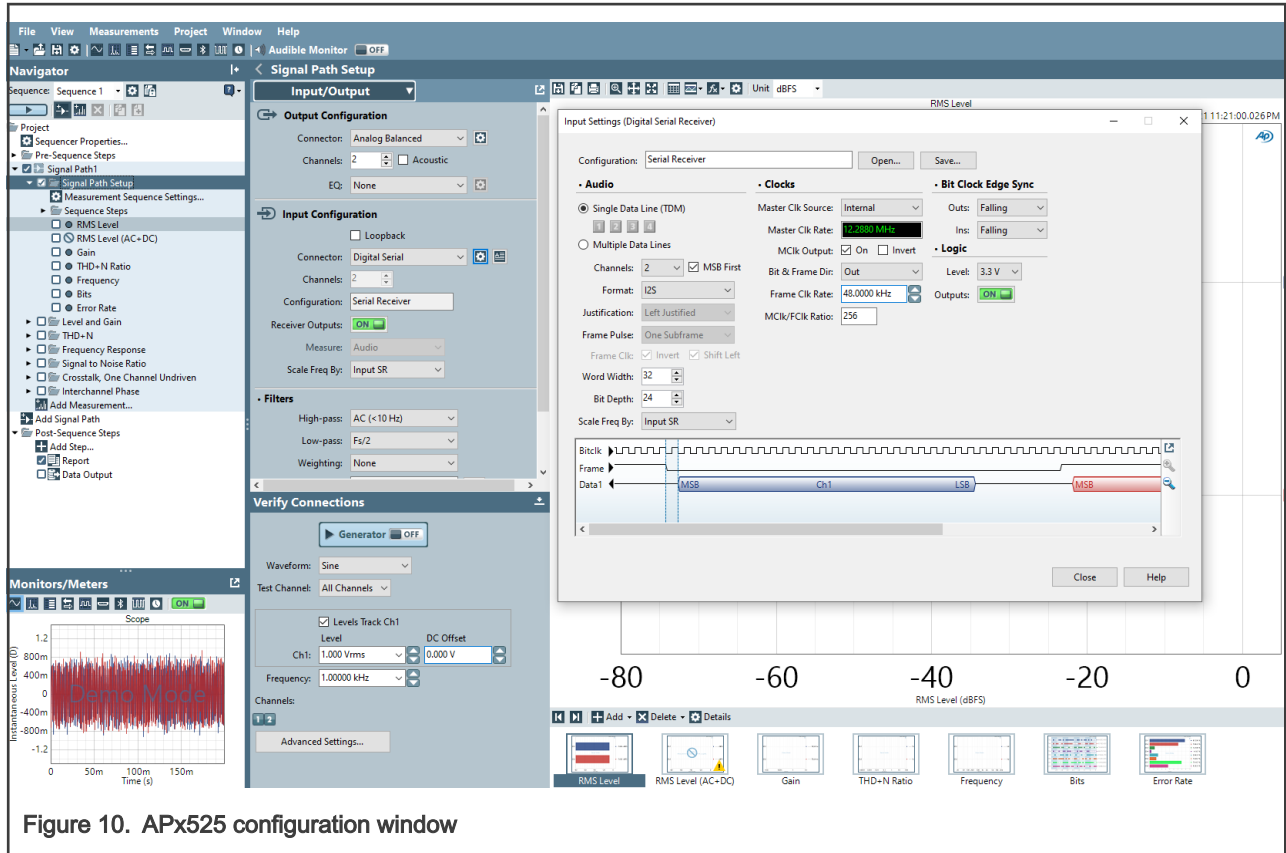

Figure 10. APx525 configuration window
4. Figure 10 shows the input and output configuration of APx525.